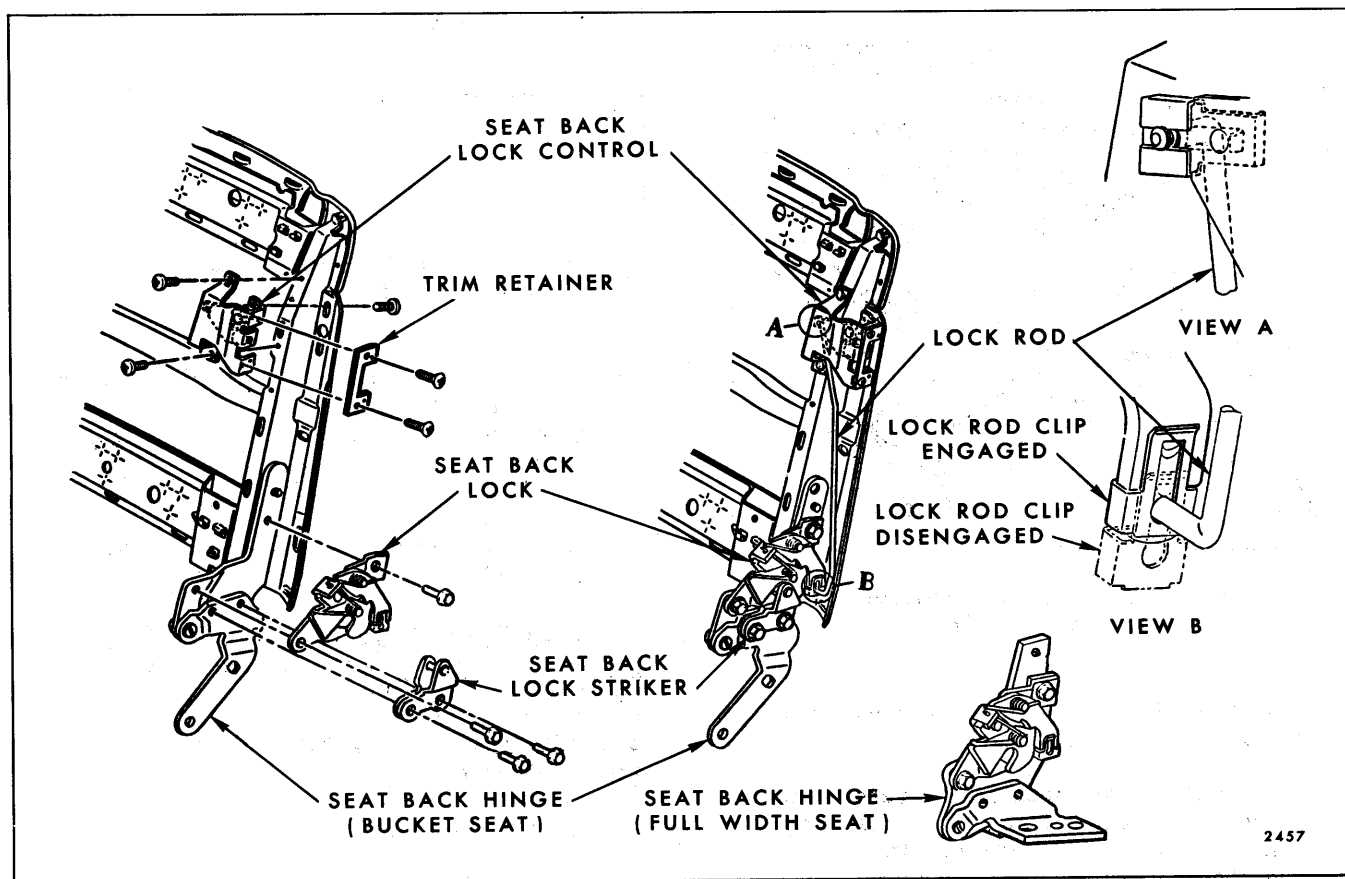

Fig. 15-40—Seat Back Lock, Lock Control and Lock Rod - Strato Full Width and Bucket Seats
2. Remove hog rings securing seat back trim to seat back side bar; then, turn back trim sufficiently to gain access to seat back lock and lock striker attaching bolts (Fig. 15-40).
3. a. To remove seat back lock, disengage lock rod clip at lock (Fig. 15-40) and detach rod from lock. Remove bolts securing seat back lock to seat back outer hinge (Fig. 15-40) and remove lock from seat.
- b. To remove seat back lock control, disengage lock rod clip at control (Fig. 15-40) and detach lock rod from control. Remove lock control attaching bolts (Fig. 15-40) and remove lock control from seat back.
- c. To remove seat back lock rod, disengage lock rod clip at lock and at control (Fig. 15-40), detach lock rod from control and lock and remove from seat back.